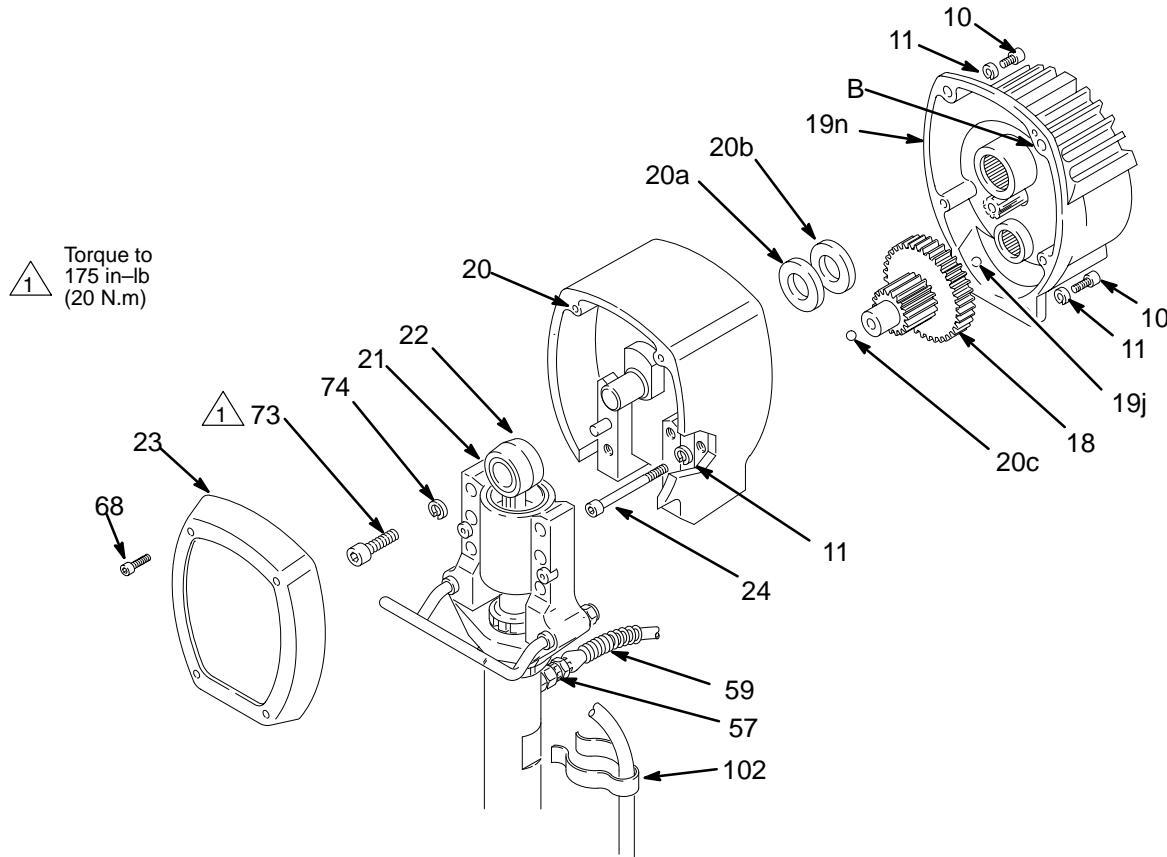

Fig. 19
**NOTE:** Refer to Fig. 19 for this procedure.
1. Remove the front cover (23).
2. Disconnect the hose (59) from the pump nipple (57). **For the upright carts only**, detach the drain hose (102) from the pump.
3. Remove the four screws (73) and lockwashers (74) from the bearing housing (21).
5. Remove the two screws (24) and lockwashers (11). Remove the four screws (10) and lockwashers (11).
6. Lightly tap around the drive housing (20) with a plastic mallet to loosen it from the pinion housing (19n).